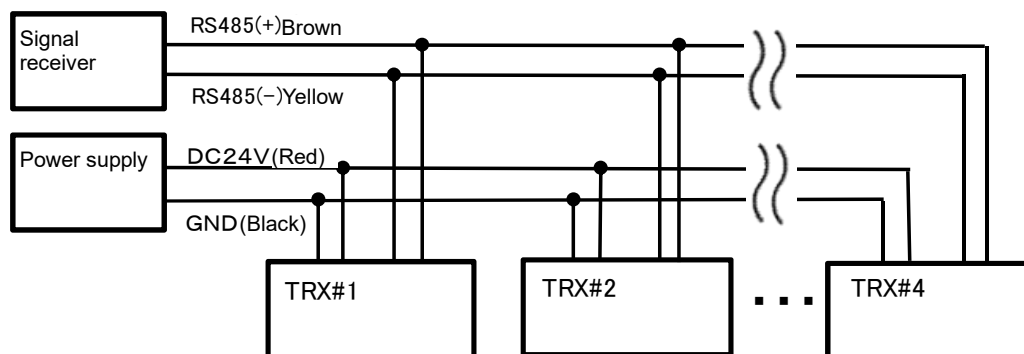

Fig. 4-4 Signal receiver and connections (RS485 output specification: R)
- If multiple meters are to be connected as shown in Fig. 4-4, choose a power supply with more than sufficient power supply capacity. A rough guideline would be 1.5W multiplied by the number of units connected.
- Activate the 100 ohm terminator resistor between communication lines only on the meter that is physically the farthest away from the signal receiver. In Fig. 4-4, (TRX#4) would be the applicable one.